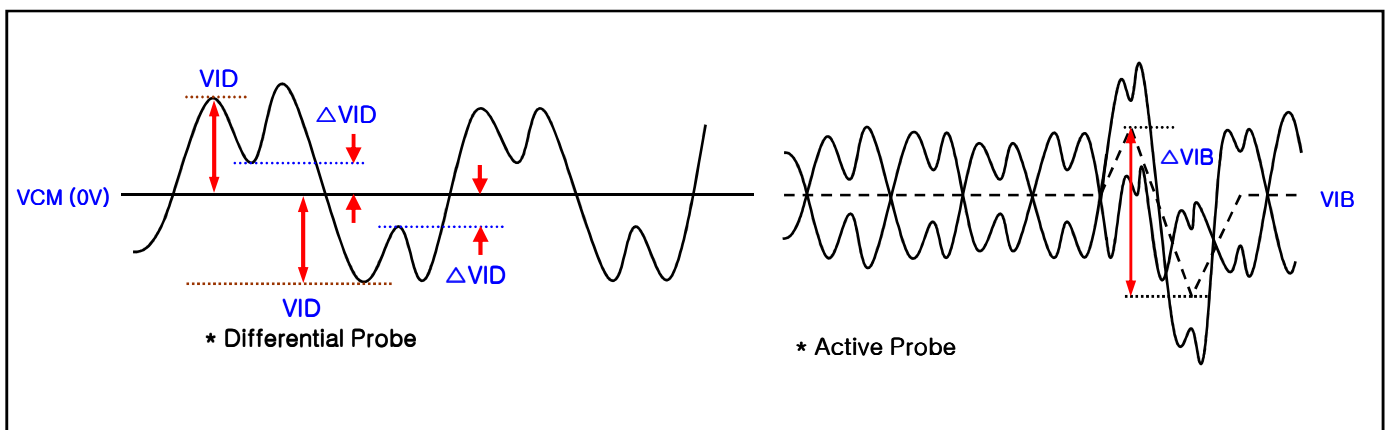

FIG. 2 Description of VID,  $\Delta$ VIB,  $\Delta$ VID
5. In case of mini-LVDS signal spec, refer to Fig 2 for the more detail.